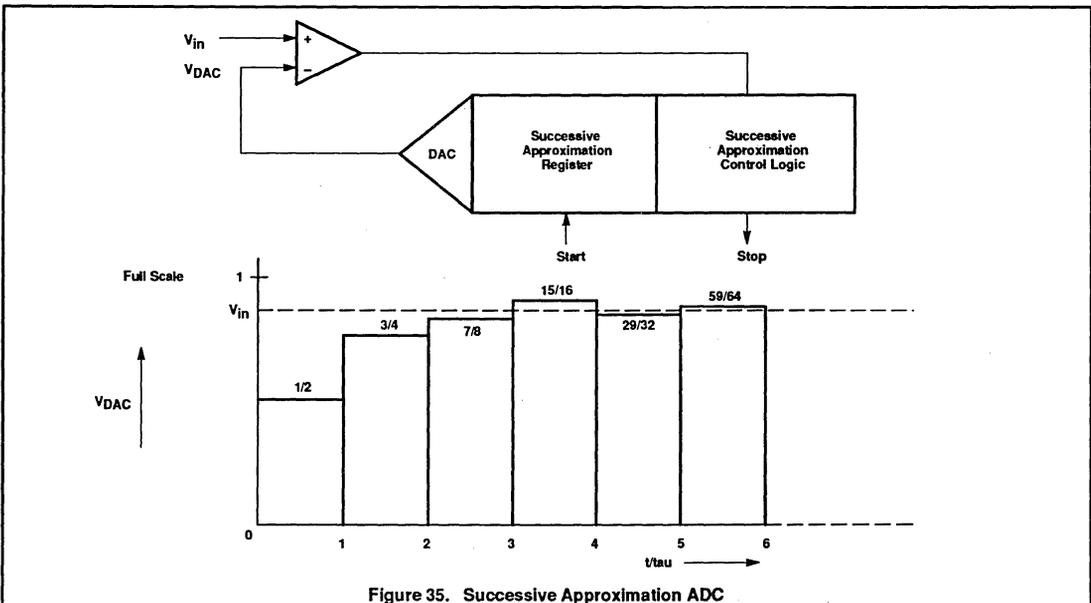

Figure 35. Successive Approximation ADC
Analog-to-Digital Conversion: Figure 35 shows the elements of a successive approximation (SA) ADC. The ADC contains a DAC which converts the contents of a successive approximation register to a voltage (VDAC) which is compared to the analog input voltage (V_{in}). The output of the comparator is fed to the successive approximation control logic which controls the successive approximation register. A conversion is initiated by setting ADCS in the ADCON register. ADCS can be set by software only or by either hardware or software.